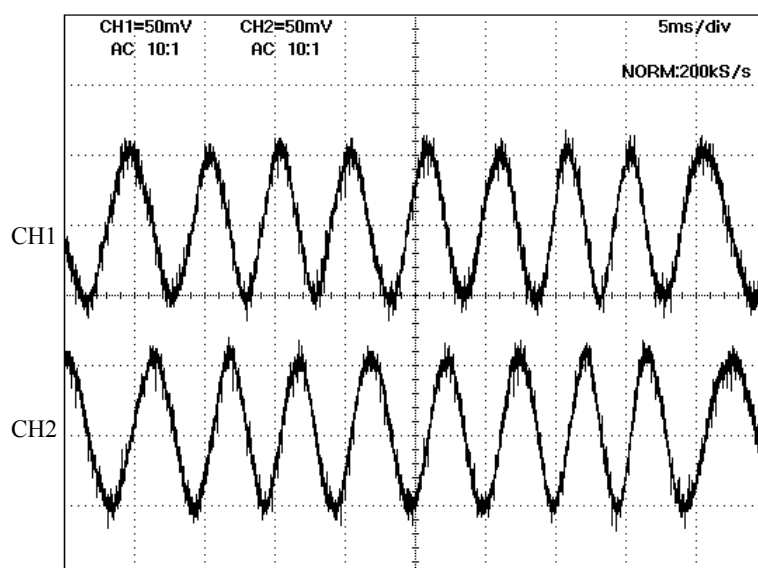

Fig.1
- ① Put the 1st lens-G adjusting washer (#3) and the 1st lens-group into the 1st lens-G sliding ring.
- ② Attach 3 1st lens-G collars (#6) and 3 screws (#7) to the 1st lens-G sliding ring.
- ③ Set the straight tube of the lens body to WIDE side.
- ④ Viewed from the 1st lens group side, place the “PC-30” letters of the focus ring at the position of 10 o'clock, by counting the index position of the 1st lens-G sliding ring as 12 o'clock.
- ⑤ Put the focus ring and 1st lens-G sliding ring in the place of Fig.1. Then align the convex portion of the lens body with the concave portion of the focus ring to assemble them.
- ⑥ Turn the lens body, which was assembled in ⑤ in the direction of the arrow until its convex portion enters in the inner groove of the 1st lens-G sliding ring. Then push the lens body and focus ring all the way into the 1st lens-G sliding ring.
- ③ In case large waveform-noise (as shown in Fig. 1) is detected, use the FILTER function.